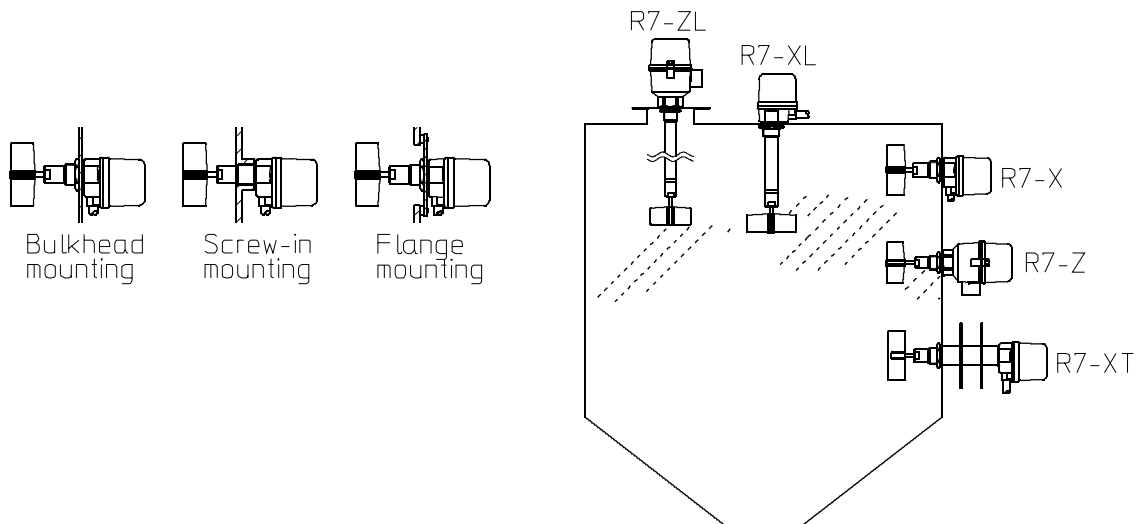

Fig. 3.
First, drill a $\phi 28$ hole in the bin wall. Then, insert the shaft and tighten the (1)gasket , (2)washer and (3)nut in these order. After clamping the unit, install the paddle with pin. See Fig.3.
The R7 is provided with a G3/4 threaded mounting. It is screwed laterally into the container wall at the level where you wish to detect material. See Fig. 3.
The R7 is provided with a JIS5K65A flange for $\phi 80$ paddle. It is installed on a compatible mating flange on the container wall at the level where you wish to detect material. See Fig. 3.